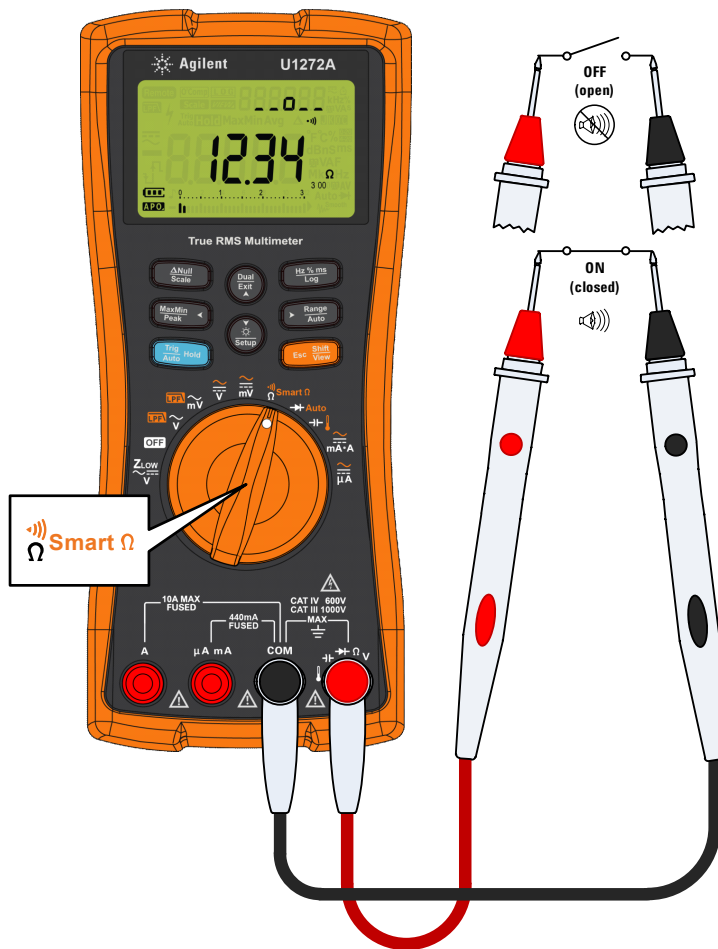

Figure 2-16 Testing for continuity
- 1 To perform a continuity test, position the rotary switch to  and set up your multimeter as shown in **Figure 2-16**.